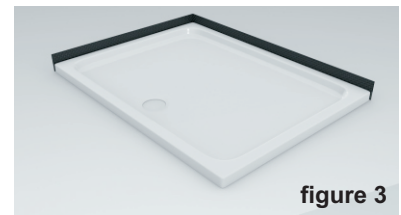

figure 3
3. In order to prevent leaks where the shower tray meets the walls, it is highly recommended that 'Flexi-Seal' shower seal, is now applied to the shower tray as per the manufacturer's instructions. See figure 3.